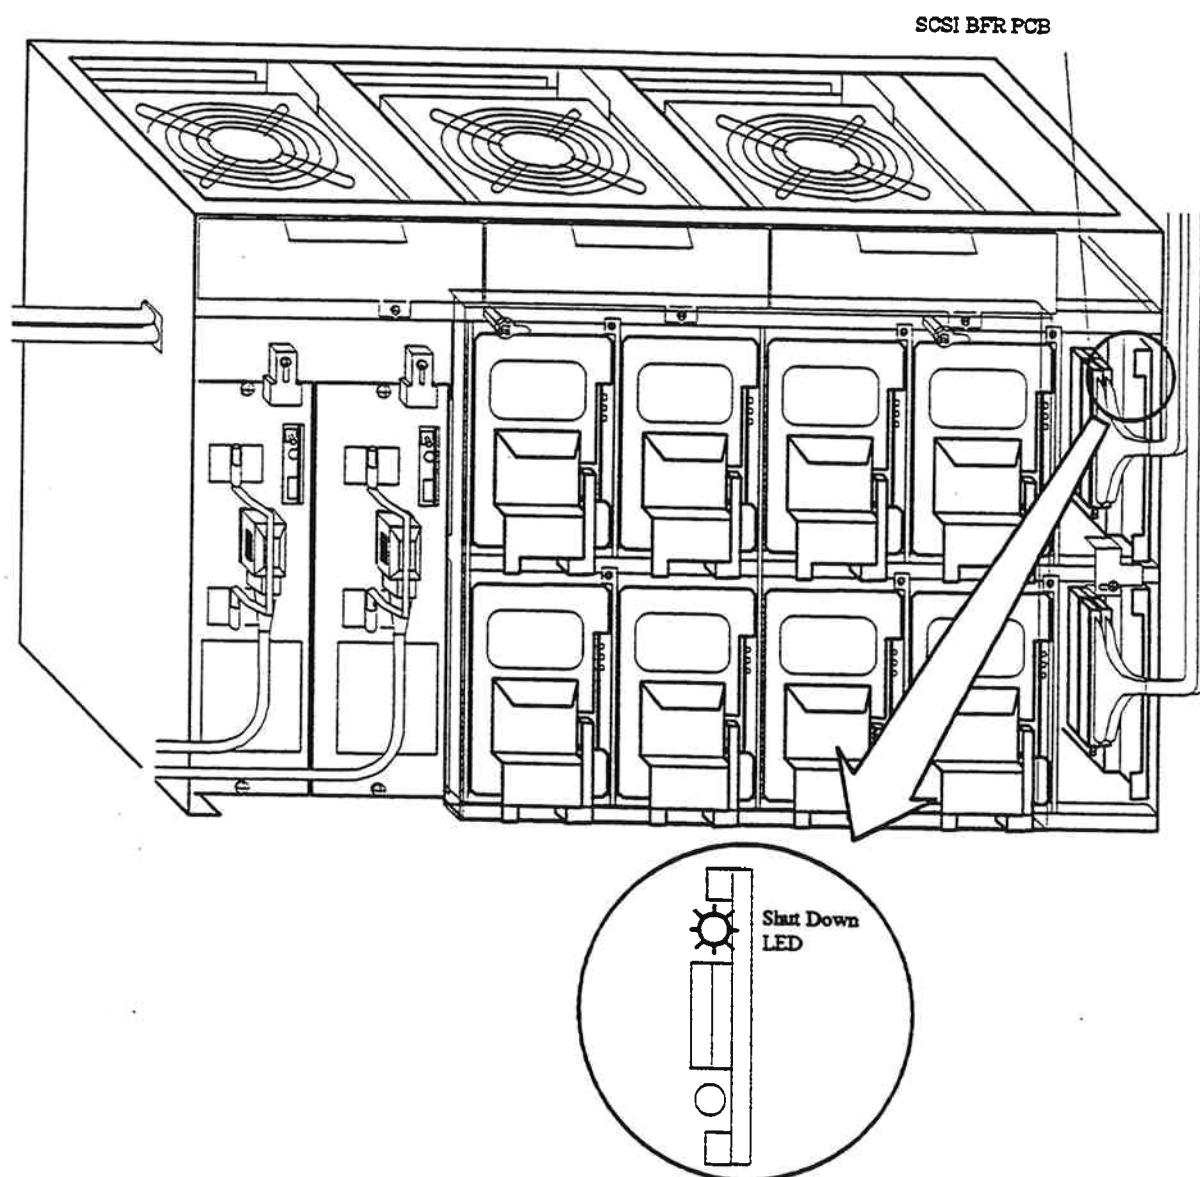

Fig. 3.4.3.2.5-1 Confirmation of the Shut Down LED Light
2. Disconnect the SCSI interface cables from the SCSI BFR PCBs in the second DKU chassis referring to figures 3.4.3.2.5-2 and 3.4.3.2.5-3.